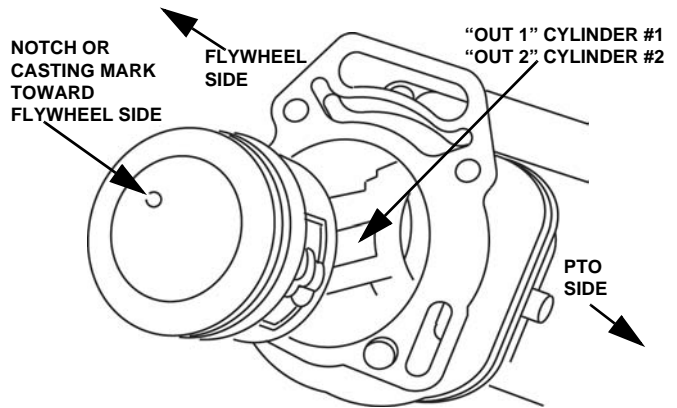

Fig. 141
3. Install #1 piston with notch or offset casting mark on piston toward flywheel side, Fig. 141.